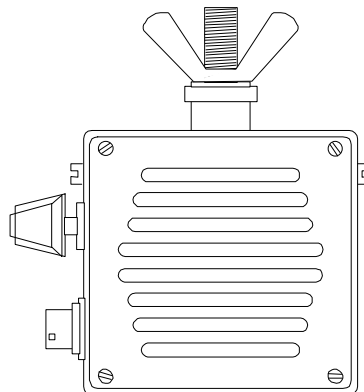

Figure 3-5. Loudspeaker (LS)
3.6. LOUDSPEAKER REMOVAL AND REPLACEMENT (Fig. 3-5)